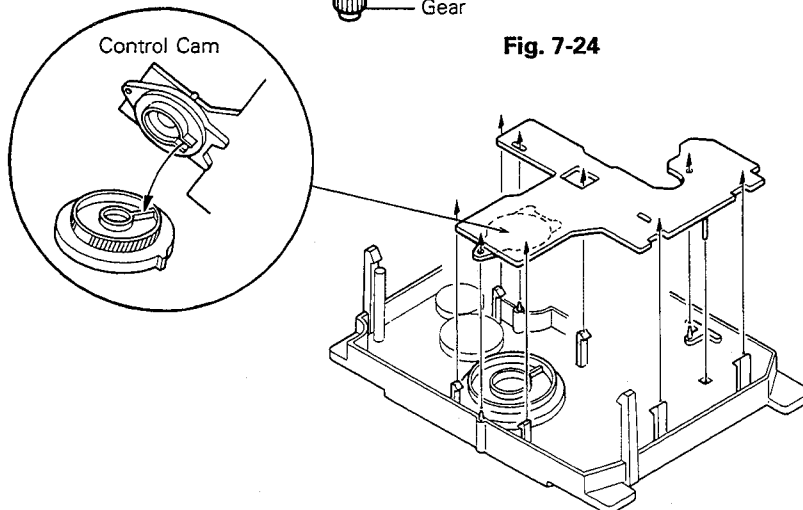

Fig. 7-25
■ **Cam switch board** (Fig. 7-21, Fig. 7-25)